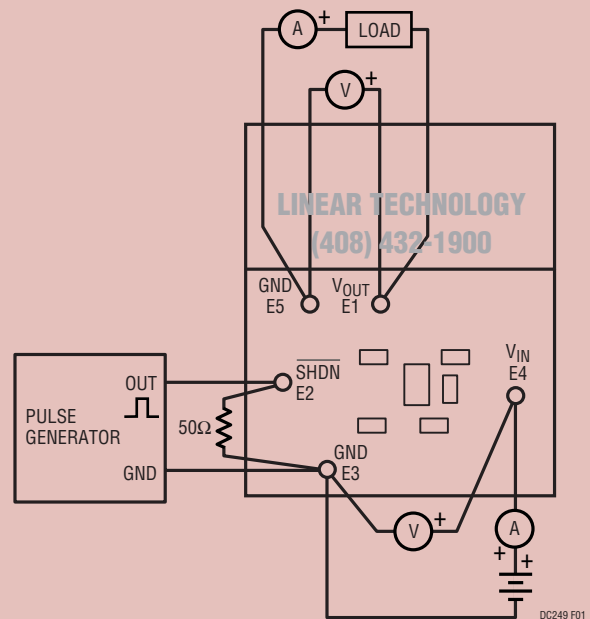

Figure 1. Proper Measurement Setup
1. Connect the input power supply, output load and meters as shown in Figure 1. For best accuracy, it is important to connect true RMS reading voltmeters directly to the PCB terminals when the input and output voltages are to be measured. True RMS reading ammeters should also be used for current measurements.